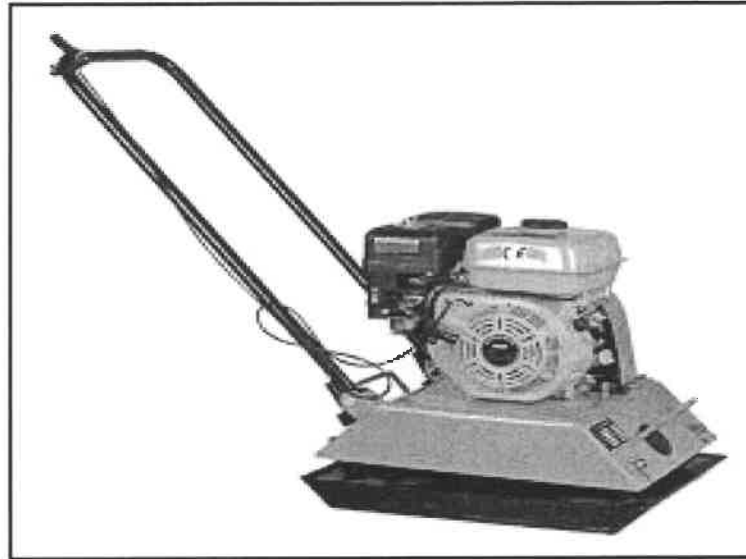

FIGURE 4.8
4.8 FIGURE 4.8 below shows a construction machine that is used when laying paving.